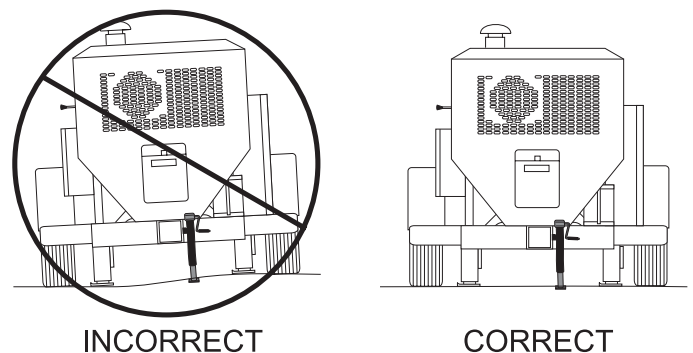

Figure 18. Rear Stabilizer Stand Deployment
17. Position both rear stabilizers stands on firm (not loose) **level** ground (Figure 18).